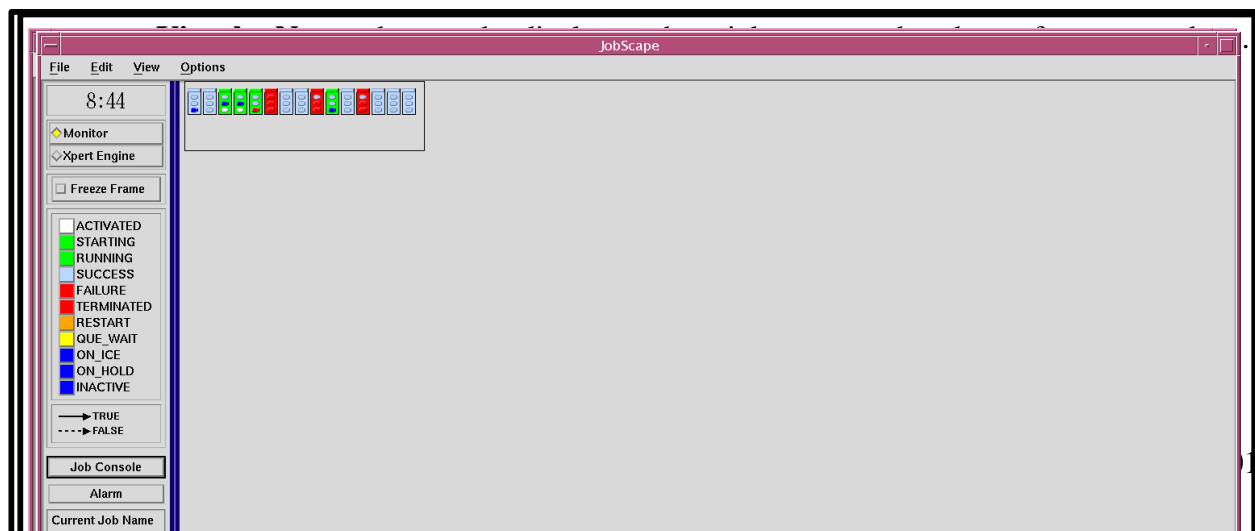

Figure 62. JobScape GUI “No Text” View
- No text is displayed in the **No Text View** (Figure 62), which provides a global or big-picture view of the jobs currently in processing without specifically identifying them by name.